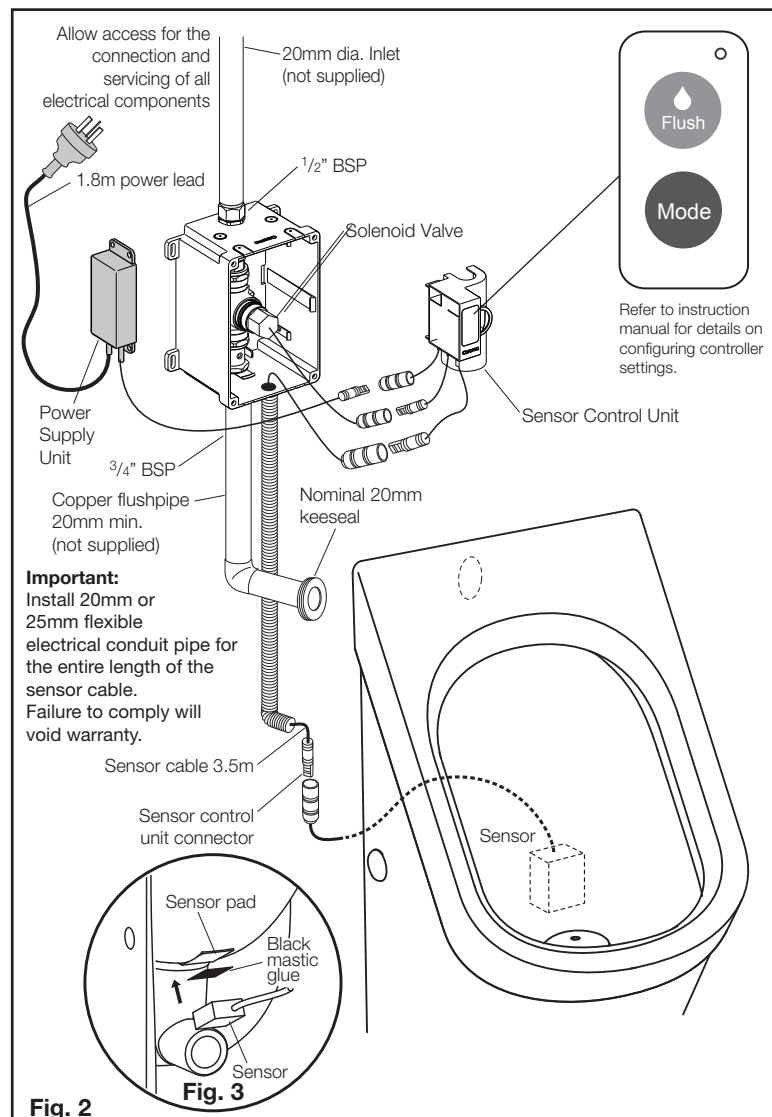
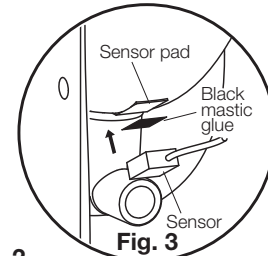

Fig. 2
Fig. 3
8. Make connection from **Power Supply Unit** (2 pin male connector) to Sensor Control Unit (2 pin female connector) as detailed in **Fig. 2**.
9. Clean rectangle pad area at the back of the urinal ensuring it is free of dust and grease. Apply mastic glue supplied to the black plastic side of the Sensor (opposite side to the label). Adhere Sensor onto the urinal with cable pointing upwards, as detailed in **Fig. 3**. Connect Female end of Sensor Cable to 4 pin connector on Sensor Control Unit. Feed the Sensor Cable through conduit and connect end of Sensor Cable to the Sensor as detailed in **Fig. 2**.